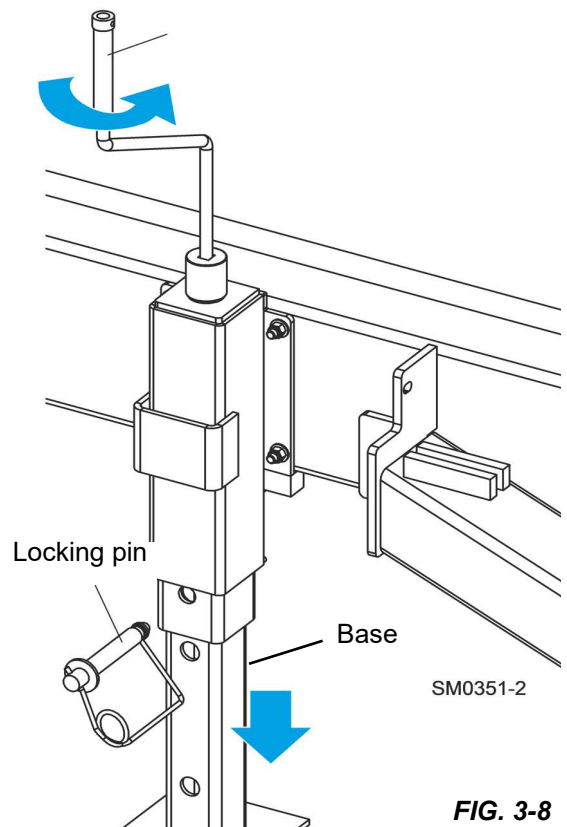

FIG. 3-8
7. Set the three front outrigger as described below. See FIG. 3-8.